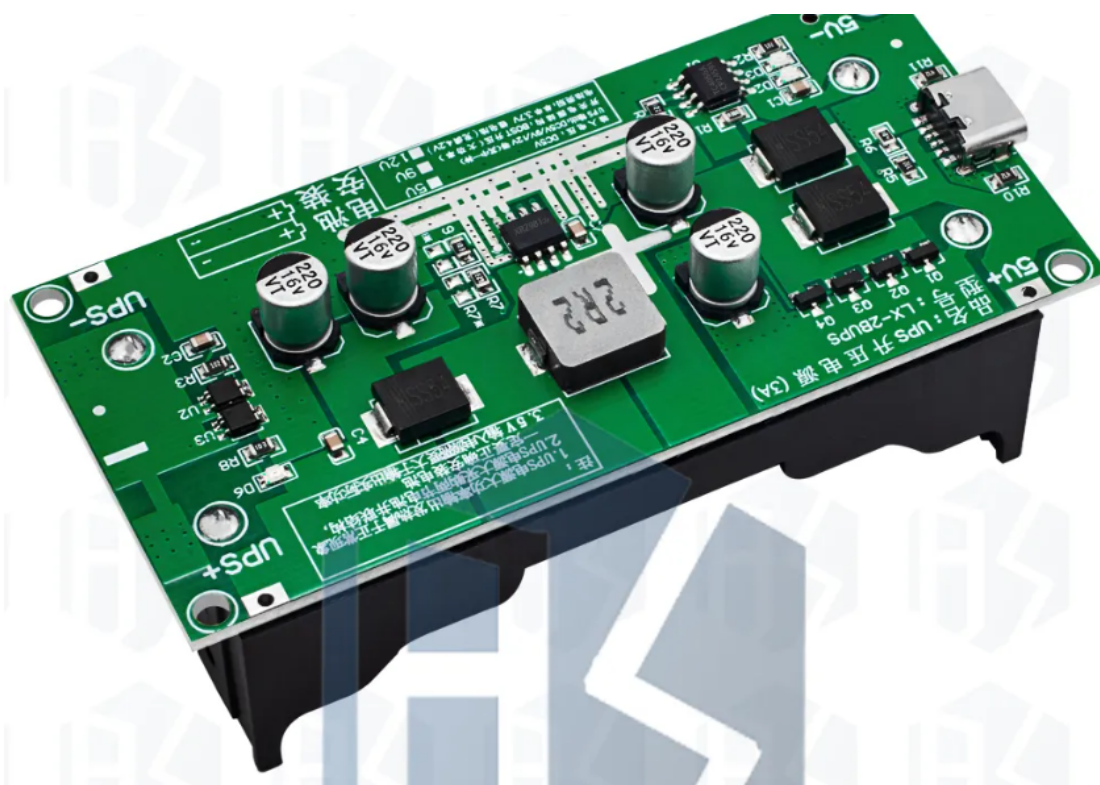

Figure 1: UPS power supply¹.
3.1.3.1 Battery UPS power supply We utilize UPS (Uninterruptible Power Supply) power supply units such as the one available on AliExpress (see fig. 1). These UPS units are specifically employed for providing power to simple mobile robots. They offer a cost-effective solution, allowing us to ensure uninterrupted power supply to the robots' systems. The chosen UPS units from AliExpress are reliable and affordable, making them an ideal choice for our requirements.